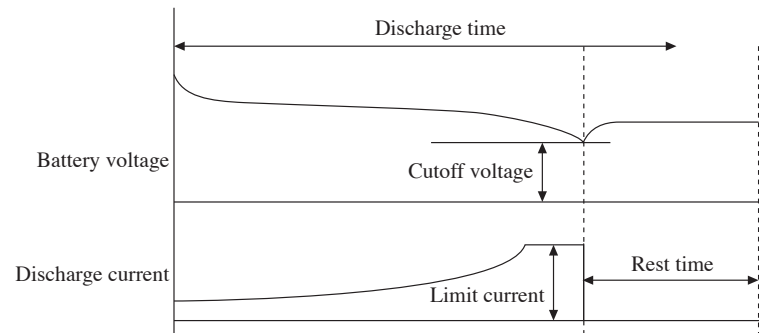

Fig. 5-29 Illustration of Constant Power Discharge
Fig. 5-29 shows an illustration of the constant power discharge (CP) operation. The figure illustrates the transition of constant power discharge → voltage drop to the cutoff voltage → discharge termination → discharge rest.